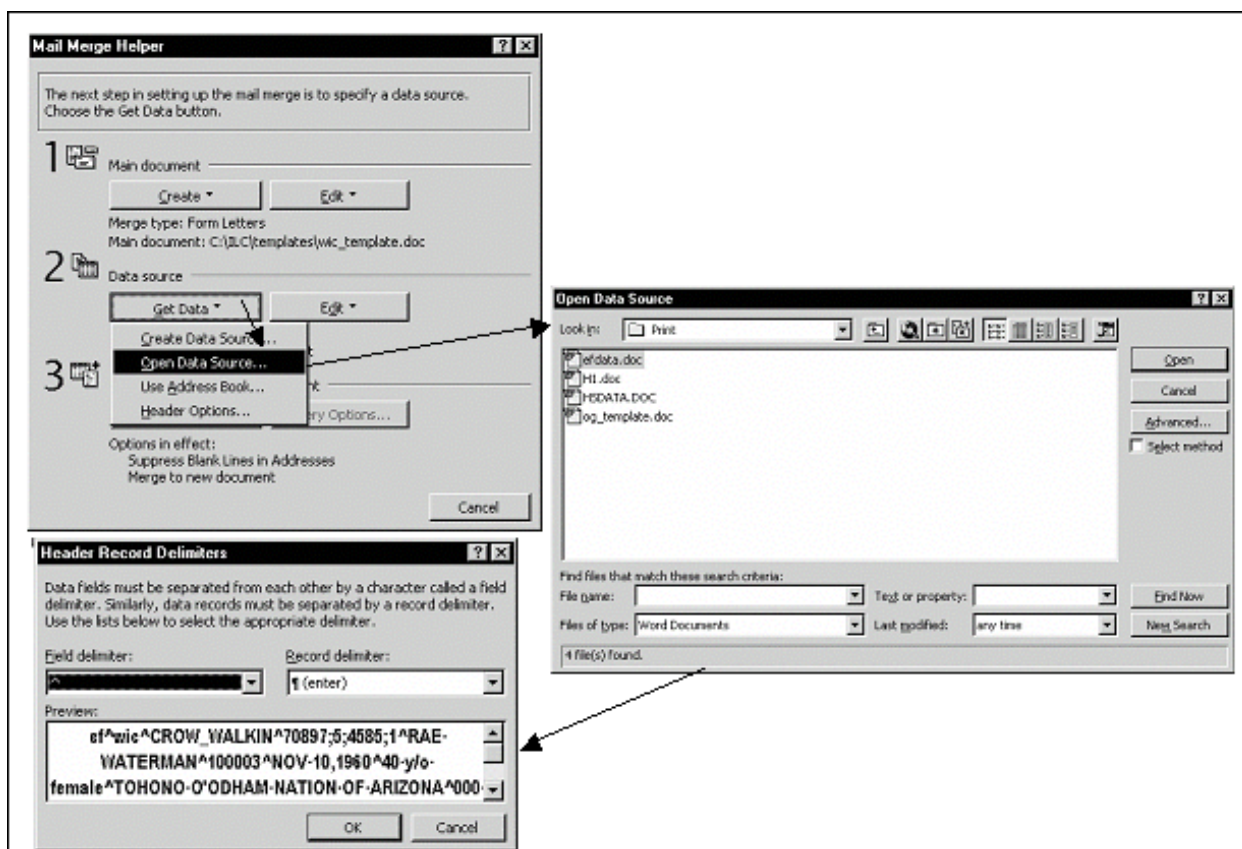

Figure 6-58: Manually Running The Mail Merge Process Steps 8-11
8. Click the Get Data option again. A dropdown menu will appear (Figure 6-58). Click the Open Data Source option. The Open Data Source window will open.